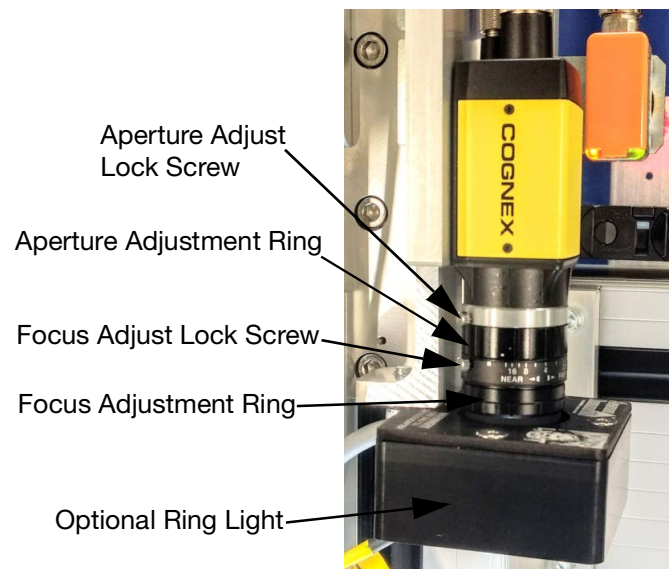

FIG. 14: Camera Parts
11. Make sure the focus and aperture lock screws are tightened. See **Figure 14** on page 75 for the location of these parts.